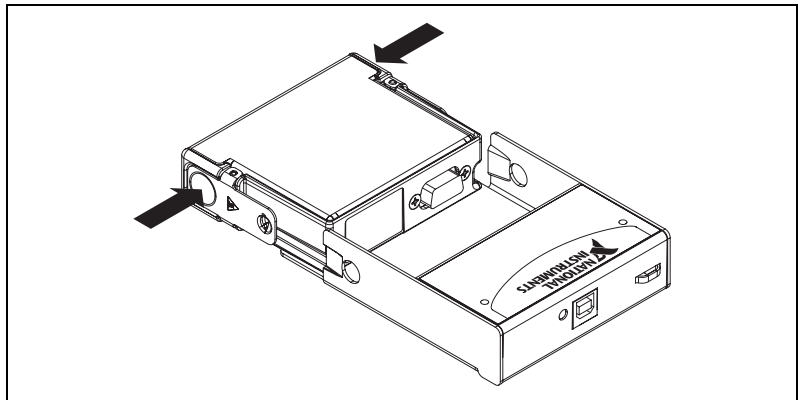

Figure 4. Module Installation
The NI 9229/9239 module and NI USB-9162 carrier are packaged separately. Refer to Figure 4, while completing the following assembly steps:
3. Align the I/O module with the carrier, as shown in Figure 4.